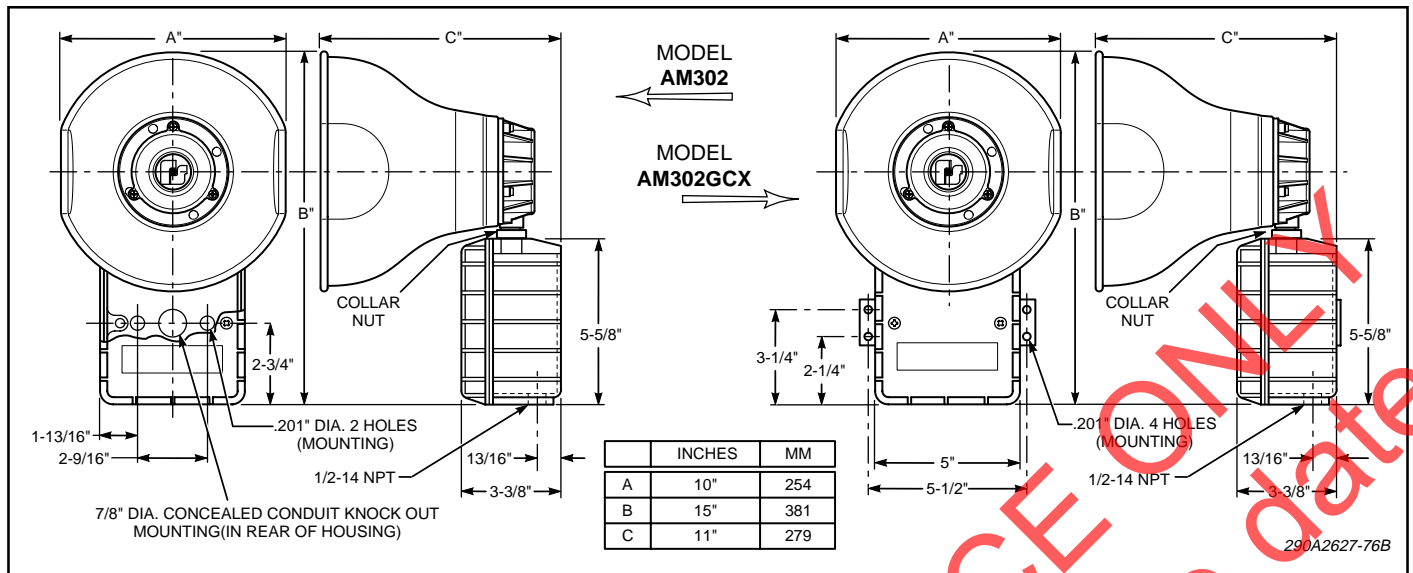

Figure 1. Models AM302 and AM302GCX Speaker Dimensions.
B. Mounting Arrangements (see figure 1).
- Using the mounting holes (two (2) inside the Model AM302's housing or four (4) in the AM302GCX's external mounting bracket) as a template, scribe drill position marks on the mounting surface. See figure 1 for mounting hole locations and dimensions.
- Reposition speaker projector if necessary to obtain desired sound coverage. Loosen collar nut (see figure 1) and move projector to desired position.
- Using the two (2) mounting holes as a template, scribe drill position marks on the mounting surface. See figure 1 for mounting hole locations and dimensions.